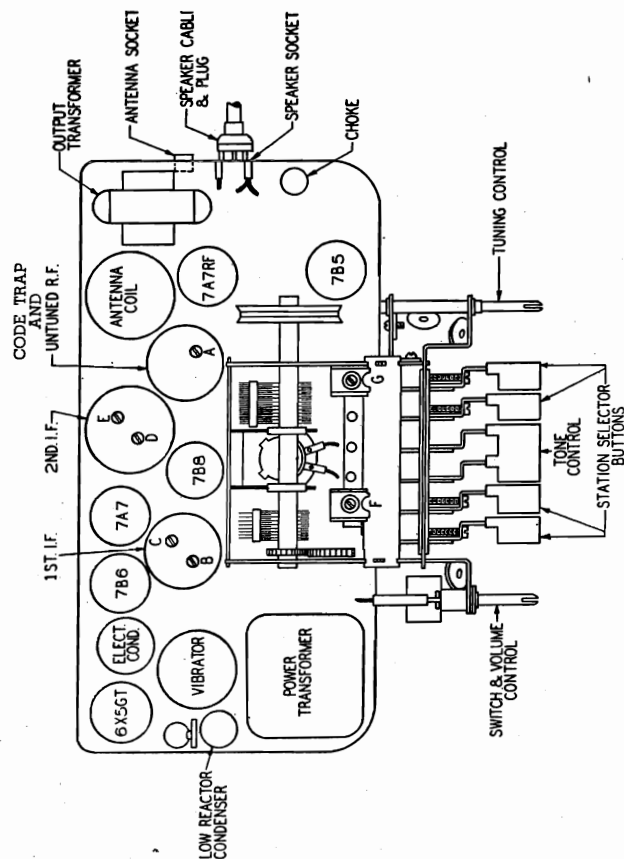

Fig. 3.
**I.F.:** The tuning condenser is fully meshed (540 K.C.) The signal generator is set at 455 K.C. and fed through the special Zenith antenna dummy to the receiver. The wave trap adjustment screw A, (see Fig. 3) is adjusted for maximum response. The adjusting screws B, C, D and E (see Fig. 3) are then adjusted in order for maximum response on the output meter. The wave trap A is then adjusted for minimum response.
**R.F.:** The tuning control is rotated until the condenser plates are completely out of mesh (1600 K.C.) Set the signal generator to 1600 K.C. Adjust the 1600 K.C. oscillator F shown in Fig. 3 for maximum response.